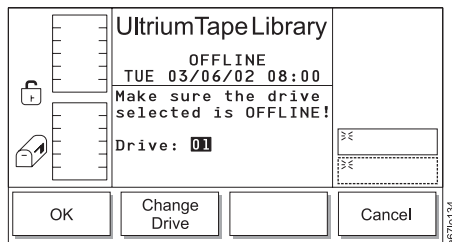

Figure 4-193. Drives Dialog
2. Press the button below the **Drives** softkey. The Drives Dialog displays the message **Make sure the drive selected is OFFLINE!** and the number of a drive in the library (see Figure 4-193). Ensure that the drive has completed all operations and that no backup applications are running. Within the drive column, drives are numbered 01 through 06 from bottom to top.